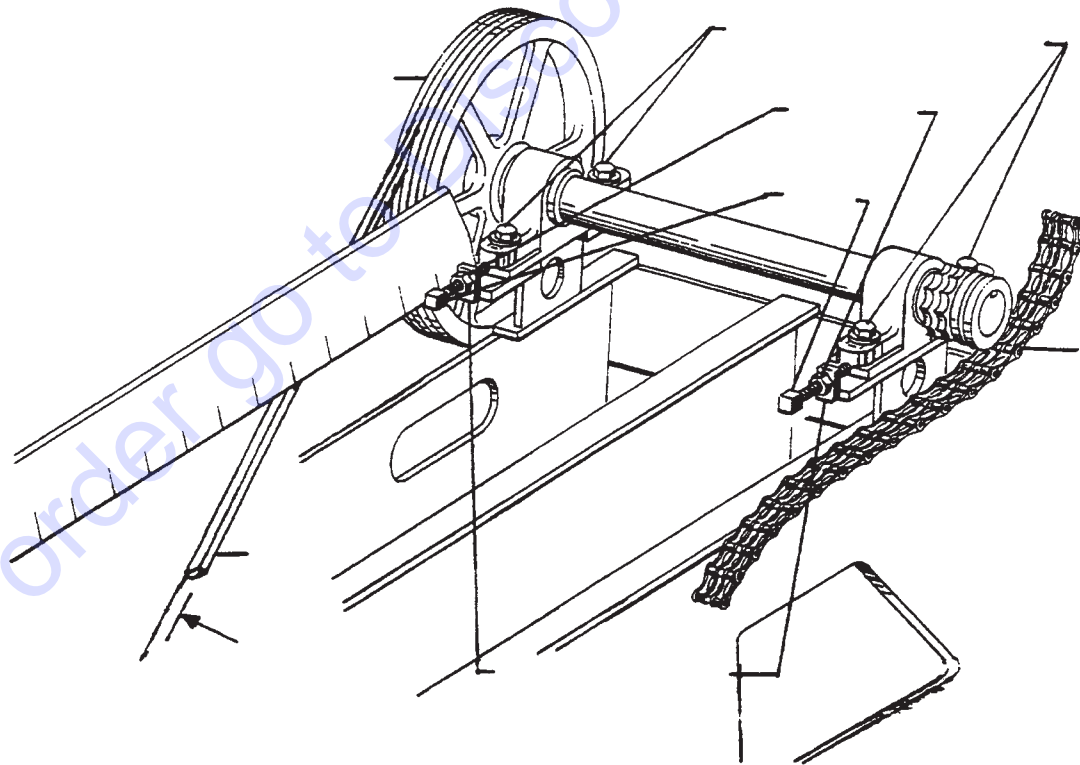

Figure 25. V-Belt and Drive Chain Adjustment
1. After the bearing assembly has been installed, remove the three "dog type" allen head set screws (B) to allow detents to be drilled. See Figure 25 below
1. Loosen the pillow bearing bolts (Figure 25) only to the point where the bolts will remain snug.